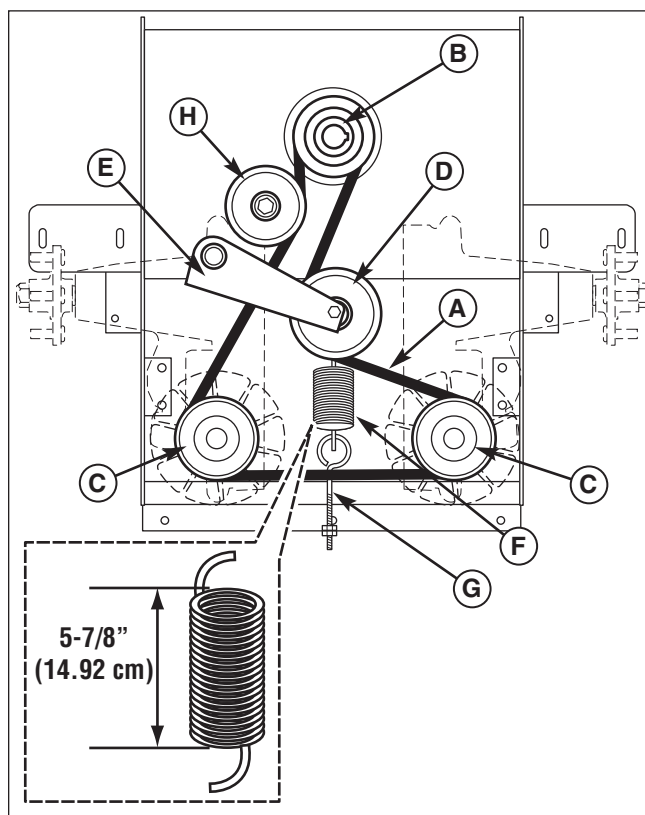

Figure 46. Hydraulic Pump Drive Belt Replacement
4. Loosen the nut on the spring anchor eyebolt (G, Figure 46) to release the majority of the belt tension. Use caution and remove the nut to completely release the tension.